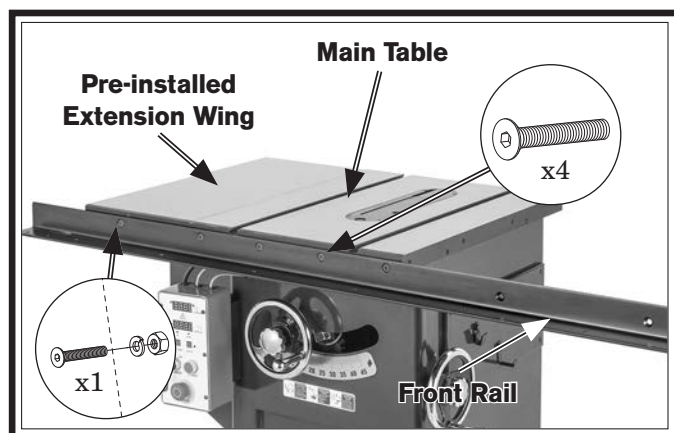

Figure 16. Front rail installed.
1. Fasten front rail onto main table with (4) M8-1.25 x 25 flat head cap screws as shown in **Figure 16**.
2. Secure left side of front rail to pre-installed extension wing with (1) M8-1.25 x 25 flat head cap screw, (1) 8mm lock washer, and (1) M8-1.25 hex nut (see **Figure 16**).